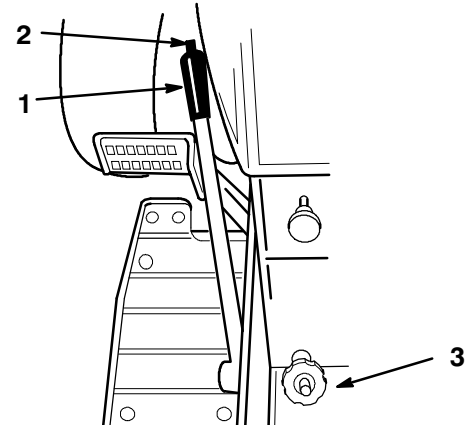

Figure 14
The attachment lift lever (Fig. 14) is used to raise and lower various attachments.
The Dial-A-Height control (Fig. 14) is used to limit the downward travel of attachments other than mowers. For example, use the Dial-a-Height to hold the blade or snowthrower above a gravel drive to prevent picking up stones or hold the tiller at a selected depth. For mowing, turn the Dial-a-Height fully counterclockwise until the knob contacts the plastic thread cap, so the mower can move through its full range of travel. Use the mower’s height control to set cutting height. To use the Dial-a-height:
- Raise the attachment lift lever: Refer to Raising Attachments. In the raised position the Dial-A-Height knob (Fig. 14) can be rotated to change the stop location. Turn right to raise and left to lower the height of the attachment.